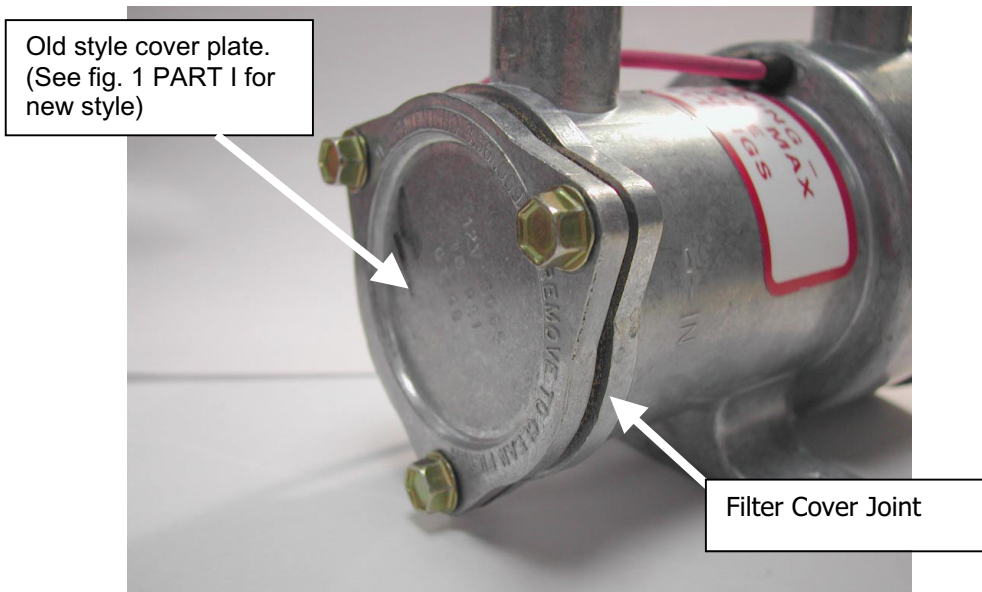

FIGURE 2
3. Visually inspect each fuel pump body for signs of fuel stains, giving careful attention to the filter cover joint (see Figure 2). Fuel leakage may appear as a greenish blue stain or residue. Utilize supplemental lighting if needed to facilitate visual inspection. Visual inspection should include airframe areas around and beneath the fuel pump mounting locations.
- b. Remove and discard fuel pump filter cover mounting screws, cover gasket, filter, and filter cover (see Figure 2).